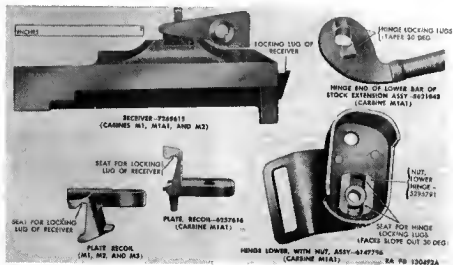

Figure 104. Important wearing surfaces.
f Inspect receiver locking lug seat in recoil plate for wear and burrs (Fig. 104). When assembling, the locking lug on receiver should cam smoothly into the seat and be held there snugly without play or shake.
i Inspect locking nut for looseness in lower hinge shell. Inspect shell for deformation. Inspect sling eyelet for looseness on hinge shell (Fig. 104). (Nut is staked or spot-welded in shell and eyelet spot-welded to shell.) Check locking slot in nut for wear and burrs (angle of slot face is 30 degrees). Inspect lower hinge screw for wear and inspect threads in grip for stripping.
l. Inspect hinge on upper bar for deformation and cracked welding and lock on corresponding end of lower bar for deformation, cracked welding, and worn locking lug (Fig. 104). The proper mating of lock and nut determine the rigidity of the stock extension when extended or folded. Angle of lock faces should correspond to that of the nut. Wear of lock or nut will cause looseness and improper locking.